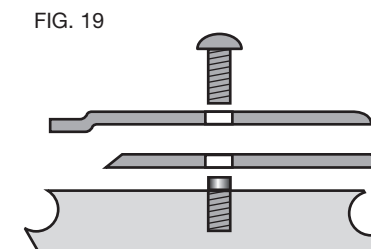

FIG. 19
1. Turn the knife around so that the sharp, unused edge hangs over the edge of the cutter head where it will cut the material. Be sure to set the oblong holes in the knife over the pins machined on the cutter head (Fig. 19).